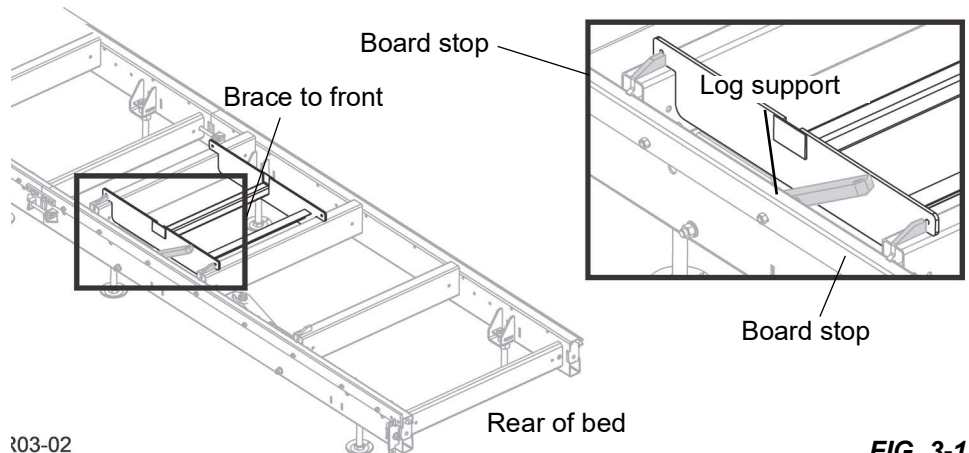

FIG. 3-1
1. Place the rail adapter on the second and third bed rails of the first bed section as shown in FIG. 3-1.